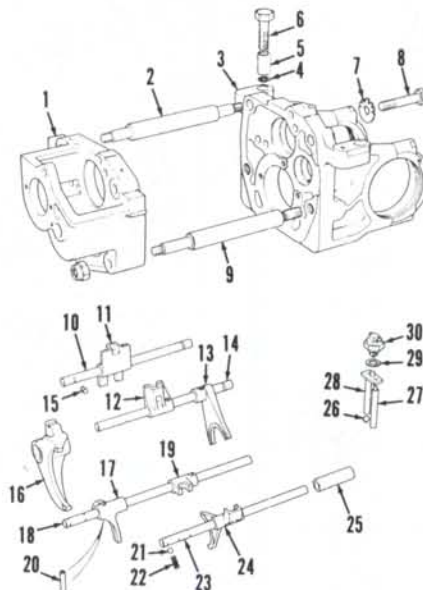
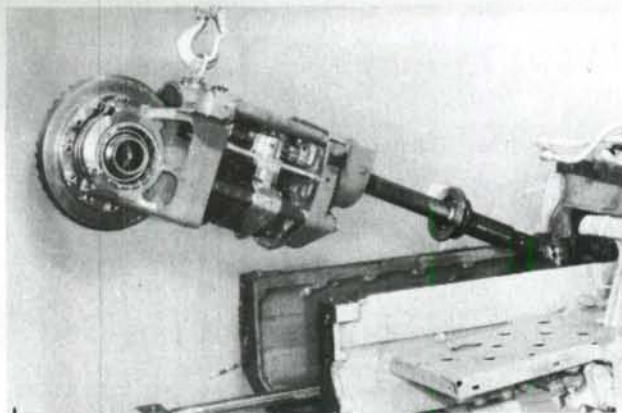
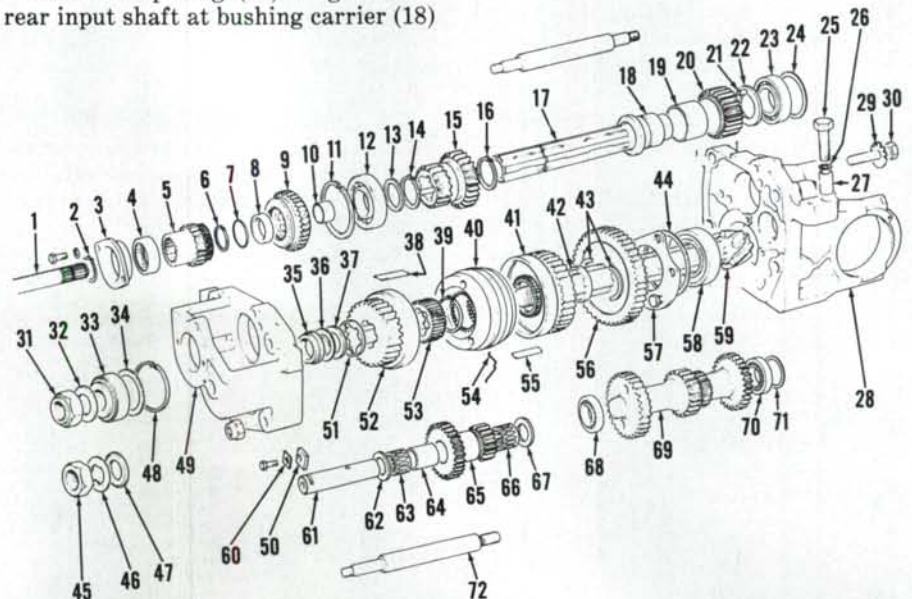

Fig. 174—Exploded view showing end plates, shift rods and shift forks used on 1190, 1194, 1290, 1294 and 1390 models.
Fig. 175—Attach a hoist to transmission as shown and remove unit rearward from main frame.
Fig. 179—Exploded view of 12-speed synchromesh transmission used on 1190, 1194, 1290, 1294 and 1390 models.
Remove lubrication line from transmission. Remove mounting bolts from clutch shaft bearing carrier. Remove transmission mounting bolts and bushings. Remove transmission rearward from main frame (Fig. 175).
Fig. 174A—Exploded view of end plates, shift rods and shift forks used on 1394, 1490, 1494, 1594 and 1690 models. Refer to Fig. 174 for legend except for the following:
224. REINSTALL. Using a hoist, install transmission assembly in main frame (Fig. 175). Install mounting bolts and bushings. Tighten bolts to 163 N·m (120 ft.-lbs.) torque, then measure clearance between bolt heads and end plate using a feeler gage as shown in Fig. 176. Clearance should be 0.08-0.50 mm (0.003-0.020 inch). If clearance is not within this range, add or remove shims (4—Fig. 174) below bushing (5). Tighten clutch shaft bearing retainer mounting bolts to 23-27 N·m (17-20 ft.-lbs.).
Remove mounting bolts from input shaft rear bearing carrier (3—Fig. 179) and remove input shaft (1) assembly. Remove snap ring securing input shaft front bearing carrier, then slide carrier from shaft. Remove "O" ring and oil seal from front bearing carrier. Remove seal (8) and "O" ring (7) from input gear (5). Remove snap rings (2 and 6) and remove input gear and rear bearing carrier with bearing from input shaft.
Remove neutral start plungers (27 and 28—Fig. 174) and detent balls (26) from rear housing. Remove first and reverse shift rod assembly and second and third shift rod assembly. Remove countershaft assembly (69—Fig. 179) and rear input shaft (17) assembly.
If shifting into second or third has been difficult, examine synchronizer friction surfaces and the synchronizer pads (38 and 55—Fig. 179). Slight radial clearance (looseness) in synchronizer is normal and the pads should slide easily into their grooves without binding. No attempt should be made to disassemble synchronizer assembly as individual service parts are not available.
230. PINION SHAFT ASSEMBLY. With pinion shaft (59—Fig. 179), bearing (58) and correct thickness of shims (44) in position, install retainer plate (57) and tighten retaining bolts to 40 N·m (30 ft.-lbs.) torque. Install first/reverse gear (56) with shift fork groove toward retainer plate (57). Install split rings (43) and spacer (42). Apply grease to the six bearing pads (55) and install pads in splines of pinion shaft (59).
231. REAR INPUT SHAFT ASSEMBLY. Press bushing (10—Fig. 179) into rear input shaft (17). Press bushing (19) into reverse idler gear (20).
Heat bearings (68 and 70—Fig. 179) to 120°C (250°F) maximum before installing on countershaft (69). Install bearing cup in rear housing without shims (71). Position countershaft in rear end housing, install front housing and tighten spacer bar nuts to 95 N·m (70 ft.-lbs.) torque.
Install bearings (63 and 66—Fig. 179) and spacer (64) into range idler gear (65). Bearing cages should be slightly
Install original shim pack (36—Fig. 179) removed during disassembly plus an additional 0.25 mm (0.010 inch) thick shim. Install shoulder washer (35) with flat side against shims. Install bearing cone, washer and nut on pinion shaft and tighten nut to 270 N·m (200 ft.-lbs.) torque. Position a dial indicator on front housing so probe contacts end of pinion shaft. Move pinion shaft up and down and measure end play. Remove nut and bearing, then reduce shim thickness as necessary to provide zero end play to 0.05 mm (0.002 inch) preload. Reassemble using a new nut and tighten nut to 270 N·m (200 ft.-lbs.) torque.